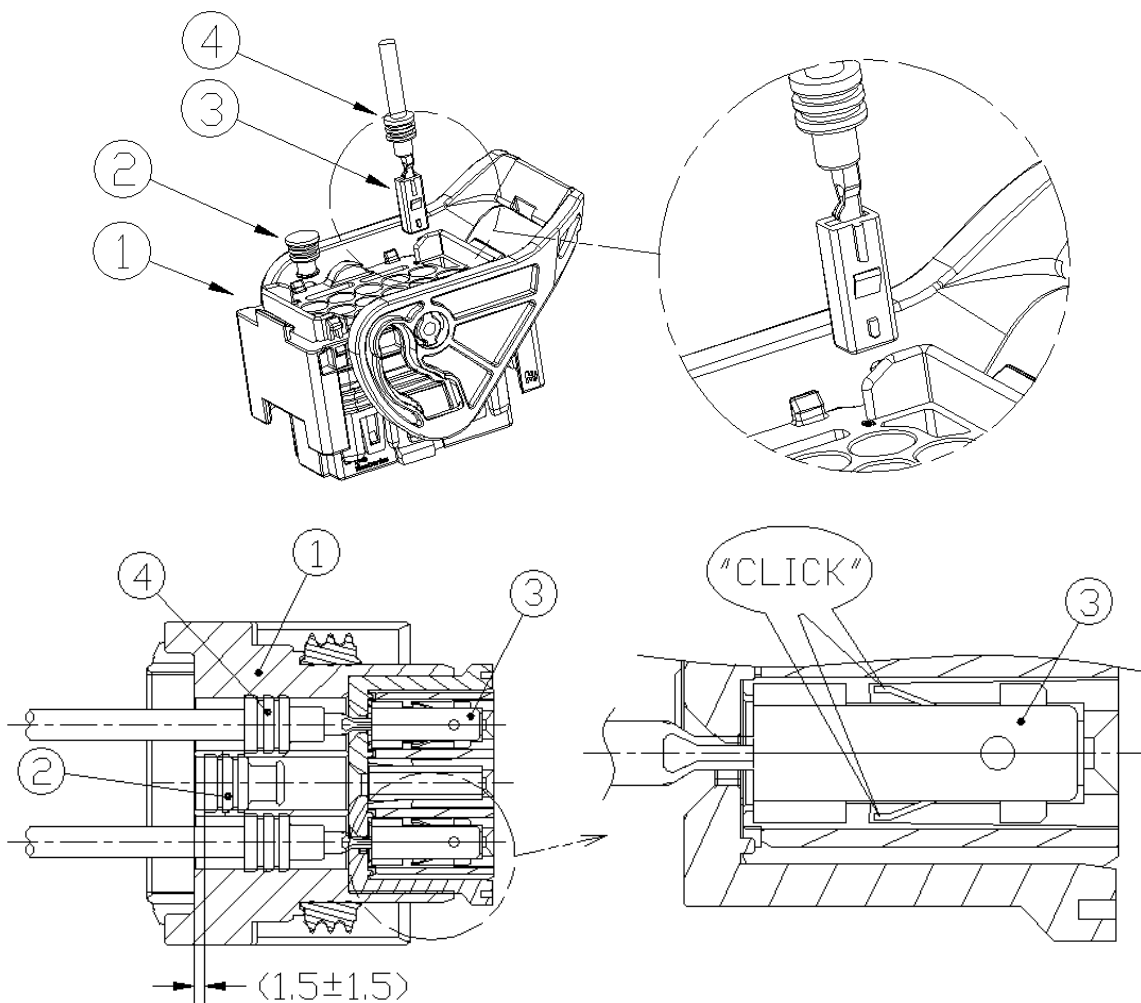

Figure 5
When inserting sealing plugs, be sure to insert with the small end first as shown above. After insertion of sealing plug, confirm right inserting direction and all the lips entered and are sinking fully in the hole. Refer to the Figure 5 above.
密封盲塞 (2) 用于封填不用的孔位，以防工作中水的进入。插入时注意小头端先插入，并确认所有的密封裙边进入到端子孔并完全沉入孔面，参看上图 5。
When inserting sealing plugs, be sure to insert with the small end first as shown above. After insertion of sealing plug, confirm tight inserting direction and all the lips entered and are sinking fully in the hole. Refer to the Figure 5 above.
密封盲塞 (2) 用于封填不用的 1~8 孔位，以防工作中水的进入。插入时注意小头端先插入，并确认所有的密封裙边进入到端子孔并完全沉入孔面，参看上图 5。